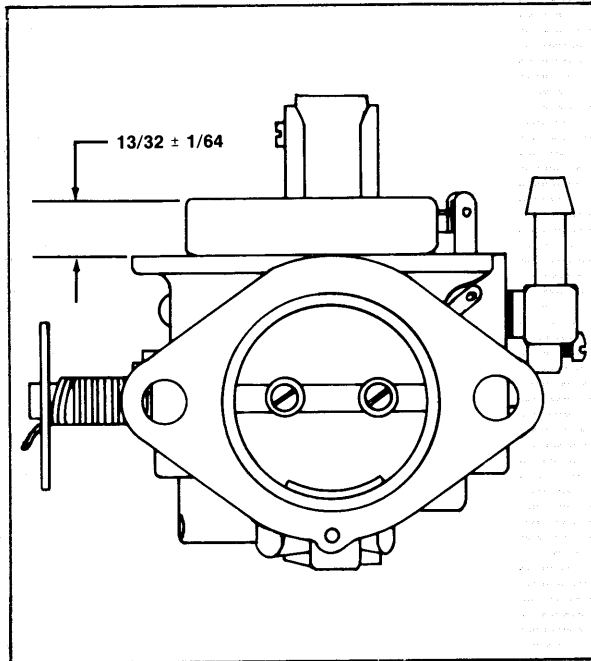

Figure 5—Measuring Float Height
- C. Measure float height as shown in figure 5.